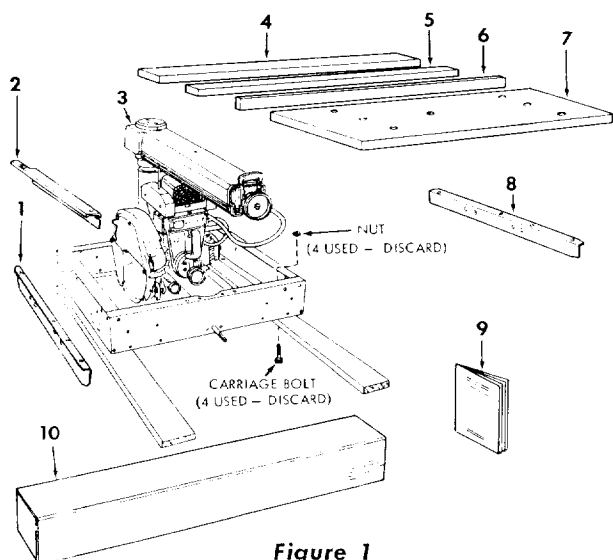

Figure 1
- This Saw is shipped complete in one carton. However, in order to prevent damage during shipment and facilitate packaging, certain items are removed at the factory and must be reassembled when received by the purchaser. These "loose" parts are shown in figure 1 and listed in the "Table of Loose Parts" below.
- Separate all "loose" parts from packaging materials and check each item with figure 1 and "Table of Loose Parts", making sure all items are accounted for before discarding any packing material.
- Tilt the basic saw assembly (3, figure 1) carefully rearward.